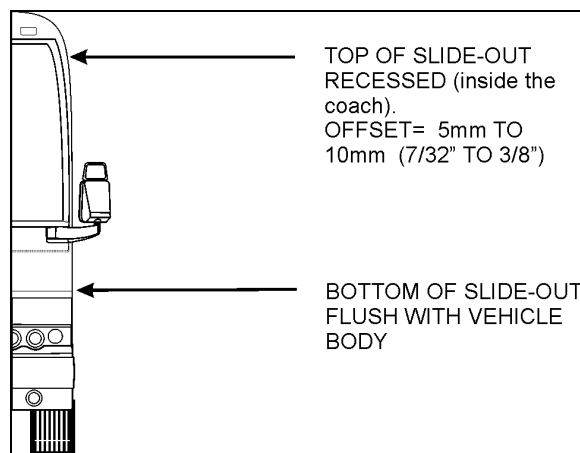

FIGURE 23: TILT ADJUSTMENT
5. Using levelling screw 3, adjust the tilt in order to have the top of the slide-out recessed between 5mm and 10mm ($7/32"$ and $3/8"$) (see FIGURE 23).